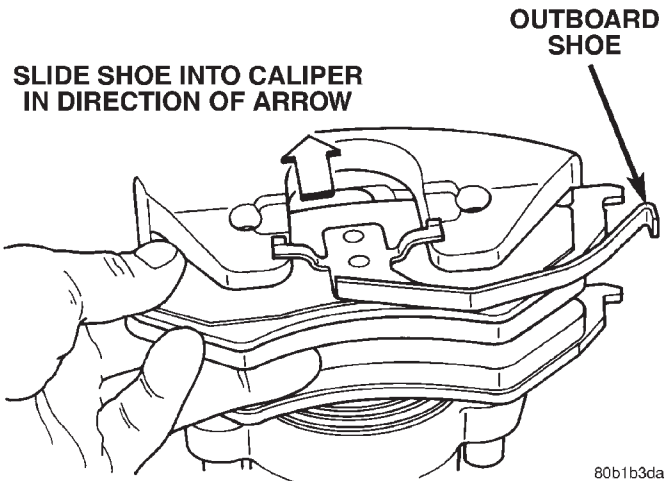

Fig. 23 Installing Outboard Shoe
- (1) Clean slide surfaces of adapter ledges with a wire brush. Then lubricate surfaces with a thin coat of high temperature grease.
- (2) Install new slide pin bushings if necessary.
- (3) Install inboard shoe. Be sure retainer spring is firmly seated in caliper piston.
- (4) Insert outboard brake shoe in caliper (Fig. 23).